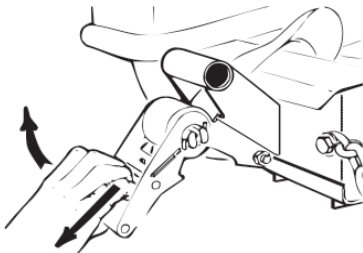

Figure 5
- ❑ Pull on the ratchet release and raise the handle as far up as you can; (Figure 5) then pull on the tire strap to unroll and remove strap from the spool. Lay the strap assembly to the outside of the ramp, or on the ramp.